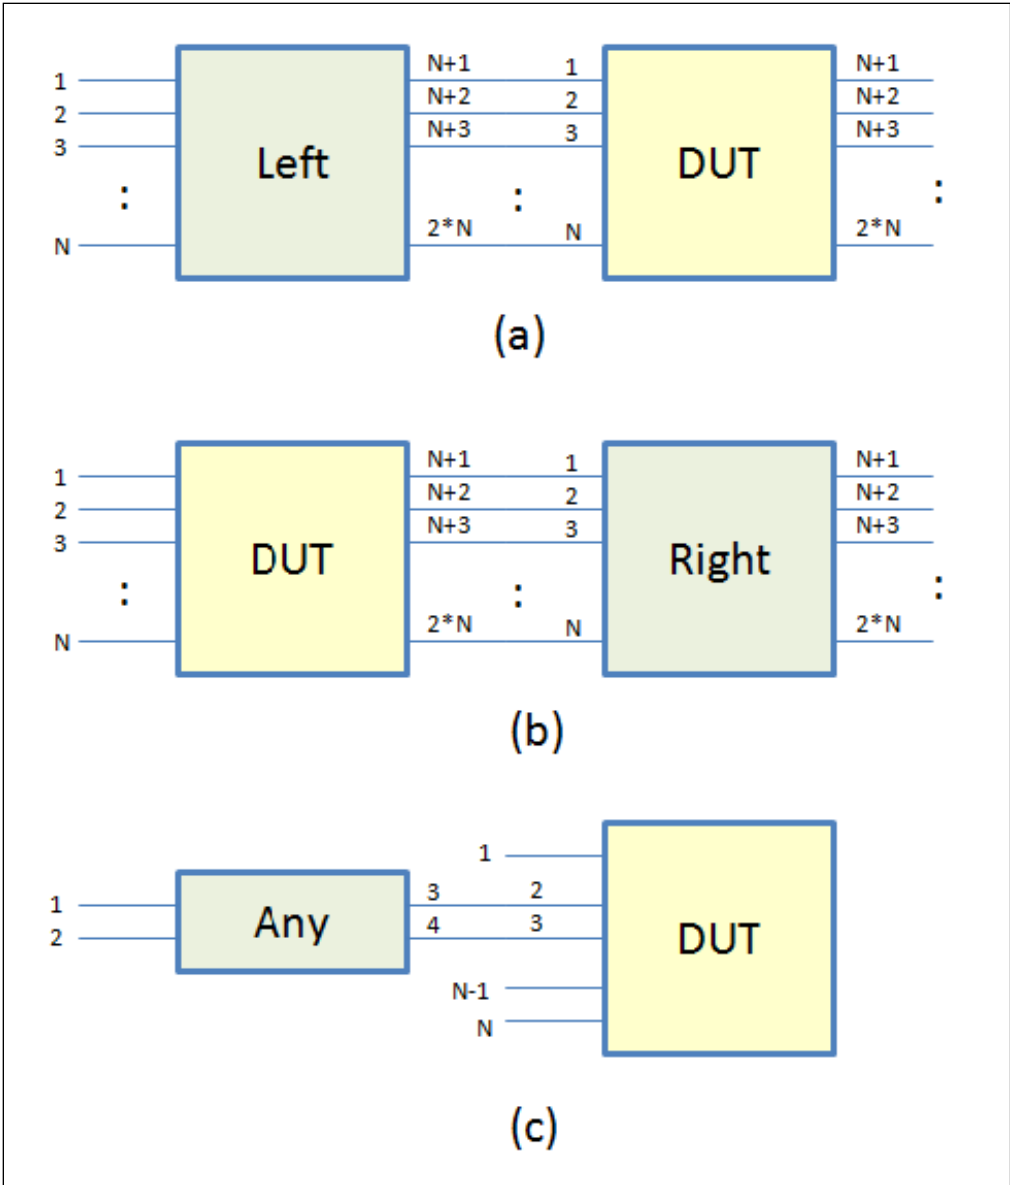

Figure 32
With this utility, the user can easily de-embed partial [S] from total [S]. Three choices for the location of partial [S] are available (see Figure 32): (1) the partial [S] is on the left side of total [S], (2) the partial [S] is on the right side of total [S], and (3) the partial [S] is at arbitrary location relative to the total [S].
For the third selection, the partial [S] must have even number of ports with either Ports 1 to N as inputs and Ports N+1 to 2*N as outputs or Ports 1, 3, 5, ... as inputs and Ports 2, 4, 6, ... as outputs. The total [S] can have either odd or even number of ports, but the total number of ports must be larger than one half of the total number of ports in partial [S]. In the example of Figure 32, the output ports of partial [S] are connected to Ports 2 and 3 of DUT. The user will select "Specified Ports" and enter "2 3" (i.e., port numbers separated by space) to de-embed partial [S].